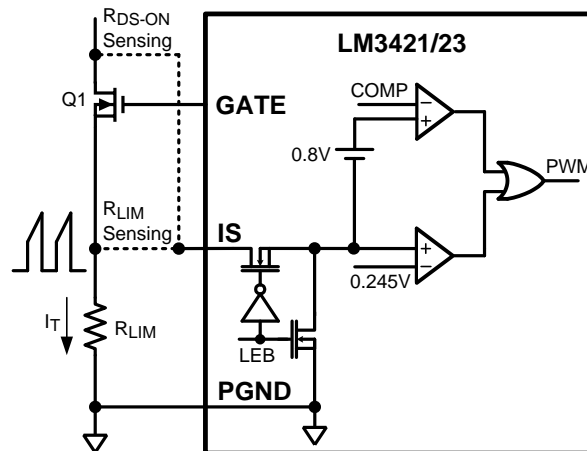

Figure 20. Current Sense / Current Limit Circuitry
The LM3421/23 achieves peak current mode control using a comparator that monitors the main MosFET (Q1) transistor current, comparing it with the COMP pin voltage as shown in Figure 20. Further, it incorporates a cycle-by-cycle over-current protection function. Current limit is accomplished by a redundant internal current sense comparator. If the voltage at the current sense comparator input (IS) exceeds 245 mV (typical), the on cycle is immediately terminated. The IS input pin has an internal N-channel MosFET which pulls it down at the conclusion of every cycle. The discharge device remains on an additional 210 ns (typical) after the beginning of a new cycle to blank the leading edge spike on the current sense signal. The leading edge blanking (LEB) determines the minimum achievable on-time (t_{ON-MIN}).